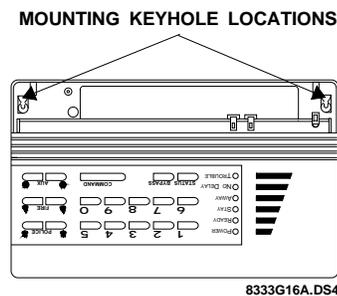

Figure 3. Mark Mounting Keyhole Locations
- 3) Hold the panel *upside-down* against the wall at the desired height and location (see Figure 3). If you plan on attaching the Slim Line Hardwire Interior Siren (60-483) to the right side of the panel, you will need at least 3 3/4 inches to the right of the panel.